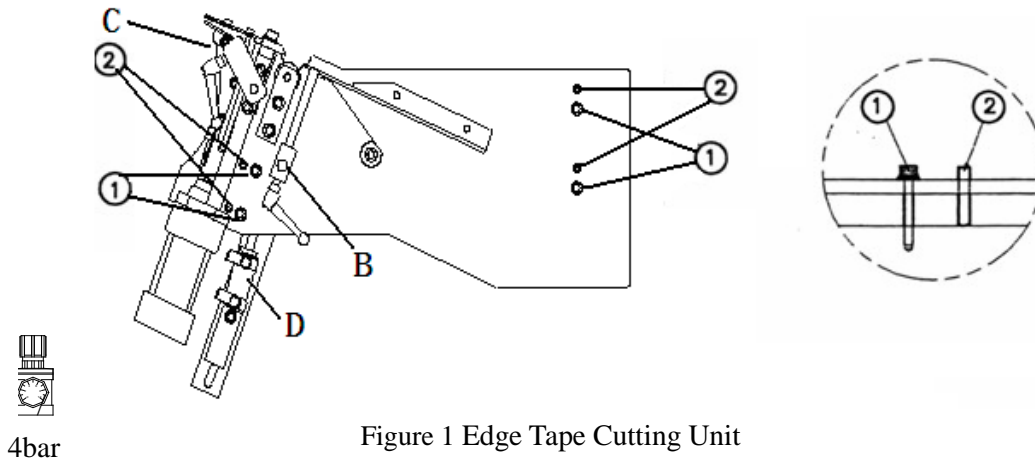

Figure 1 Edge Tape Cutting Unit
1. Loosen the four screws 1 in figure 1